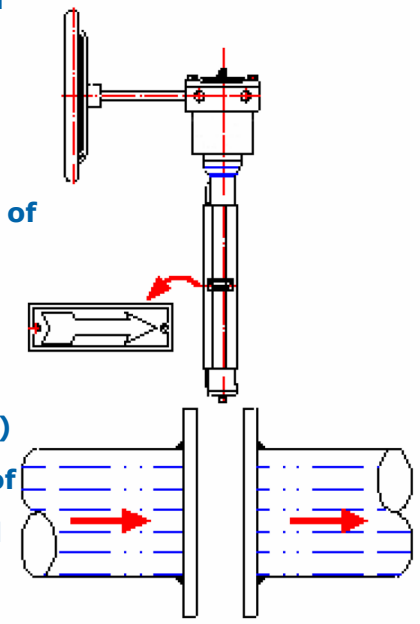

Fig.3
7.3. The shaft side of the disc is considered the high-pressure side of the valve, (as indicated on the drawings by a flow arrow) meaning the best closure performance is obtained on this side of the valve, and a determination as to the best installation should be made, to utilize this feature. This may not necessarily be the normal flow direction of the system. (Fig.3).